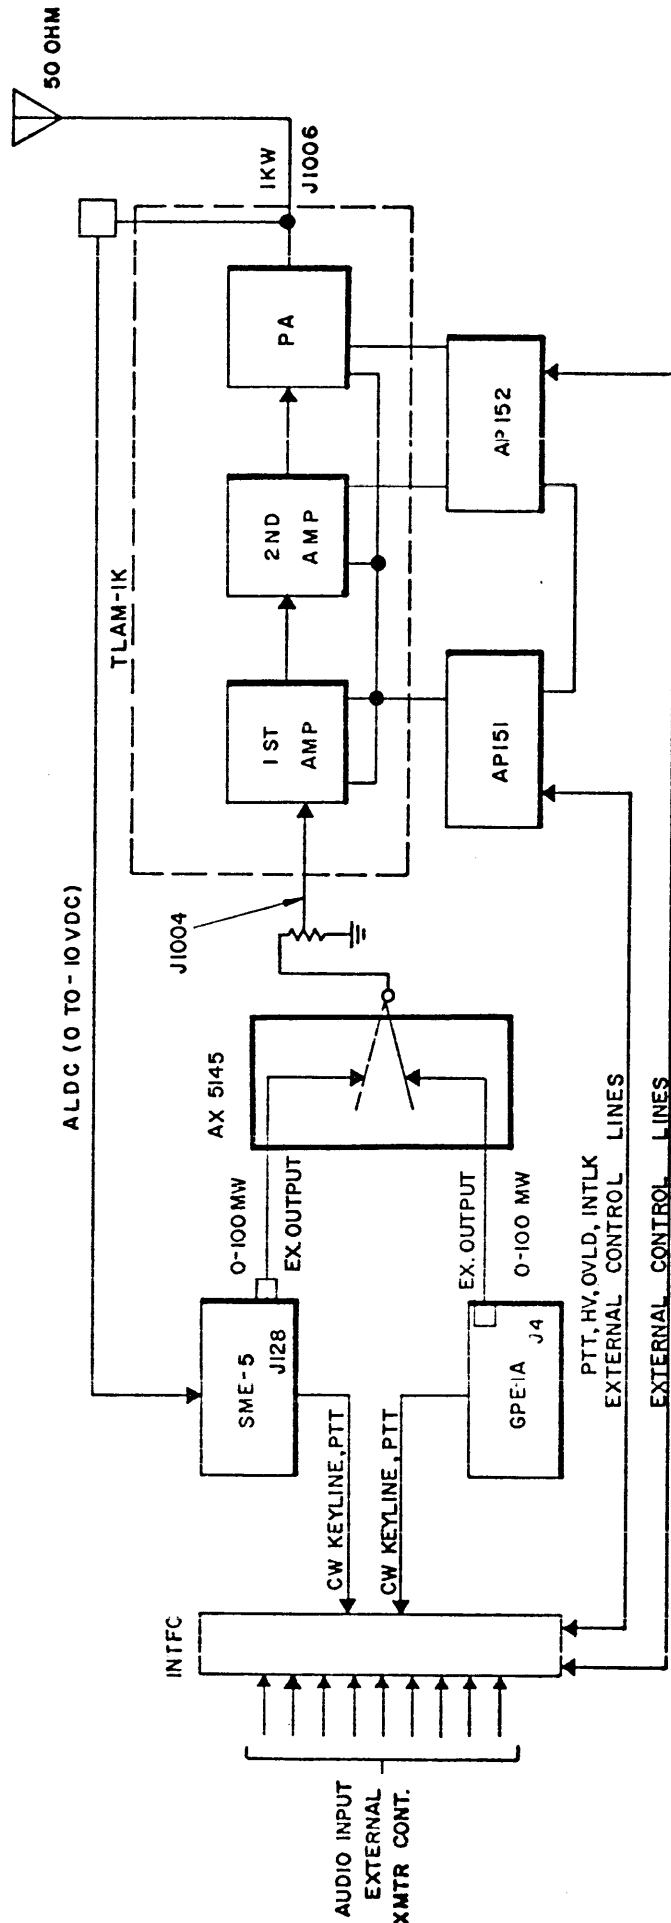

Figure 4-1 System Functional Block Diagram
(C) At J2002 (RF OUTPUT) measure carrier frequency of the overall system at a specific operating frequency using the GPE-1A exciter or the SME-5 exciter. (Refer to Figure 4-1)